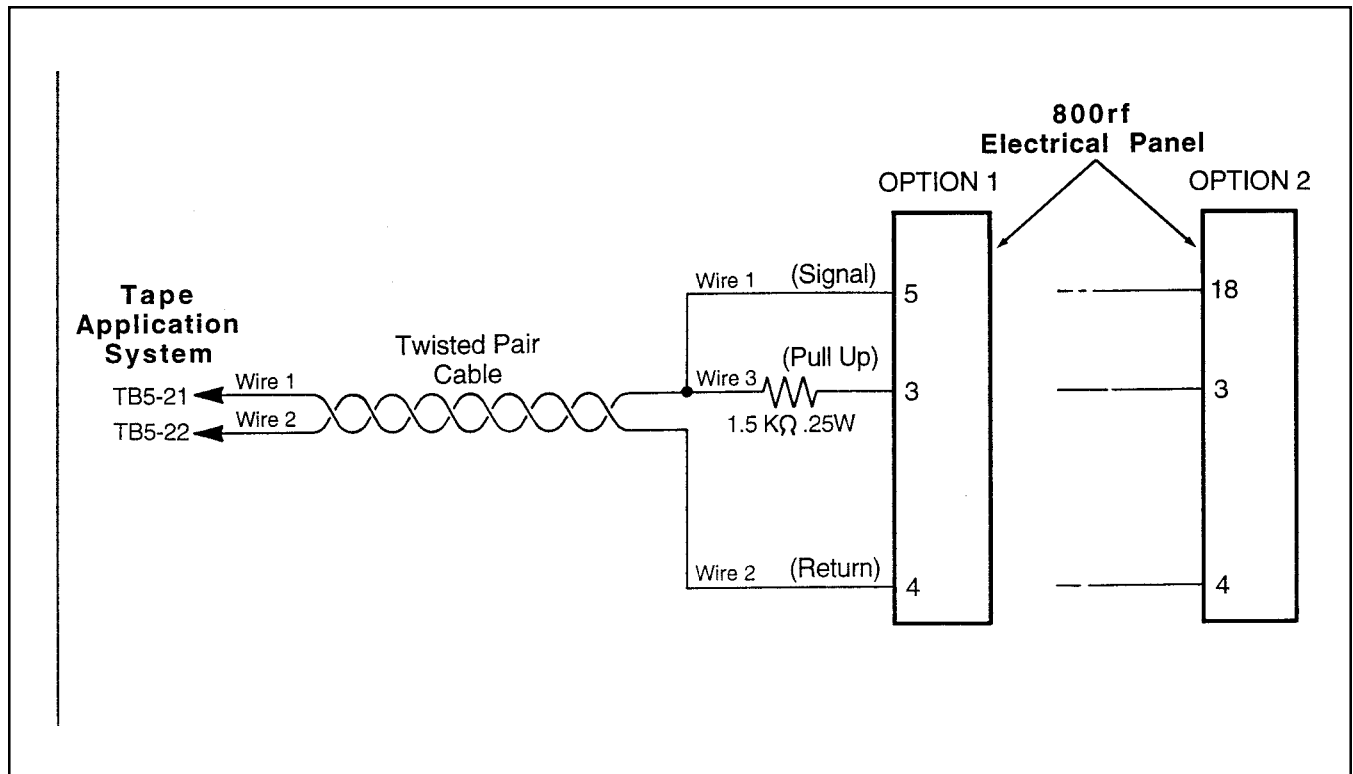

Figure 5-6 – Interface Cable, 800rf
1. Create a cable like the one shown in Figure 5-6. The cable must be long enough to reach from the electrical interconnect panel on the 800rf to the control module of the Tape Application Sensor. The cable should be a 2-conductor, twisted pair, 20-22 awg.